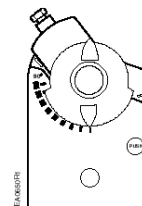

**Figure 14.**
- b. Hold down the **PUSH** button and rotate the shaft adapter to the left until it stops. Figure 14.